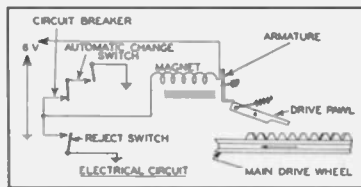

Fig. 2. Automatic change switch.
4. The first momentary contact of the automatic change switch is all that is necessary to start the changing cycle. When the switch closes, a small electromagnet is energized. The electromagnet pulls an armature back out of the way, permitting a drive pawl which is mounted on the cam wheel to fall down and engage in one of the notches which are provided on the upper surface of the main drive wheel. (See Fig. 2.)
wiring diagram showing switches and magnet can be seen in Fig. 2.